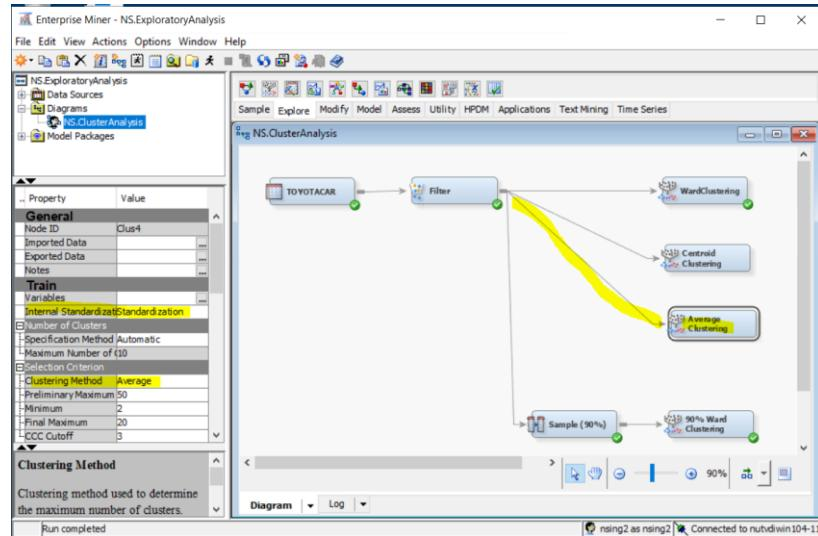
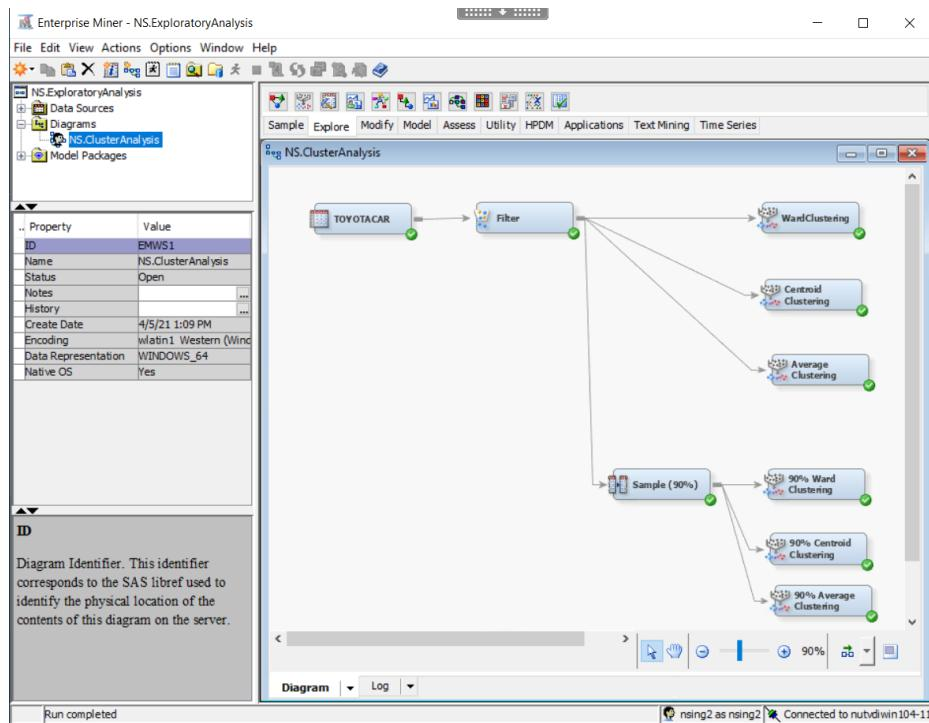

Figure 19
Figure 20
53. Right click on *Centroid Clustering* node (Figure 19) and click on Copy. Now right click anywhere on the diagram and click paste. Rename the pasted node as *90% Centroid Clustering*. In the properties window of *90% Centroid Clustering* node ensure *Clustering Method* property is set to *Centroid*. Move it under *90% Ward Clustering* node and connect it to *Sample (90%)* node (Figure 20).
54. Right click on *Average Clustering* node (Figure 19) and click on Copy. Now right click anywhere on the diagram and click paste. Rename the pasted node as *90% Average Clustering*. In the properties window of *90% Average Clustering* node ensure *Clustering Method* property is set to *Average*. Move it under *90% Centroid Clustering* and connect it to *Sample (90%)* node (Figure 20).
55. Right click on *Centroid Clustering* node and click on *Run* to execute it (Figure 20).
56. Right click on *Average Clustering* node and click on *Run* to execute it (Figure 20).
57. Right click on *90% Centroid Clustering* node and click on *Run* to execute it (Figure 20).
58. Right click on *90% Average Clustering* node and click on *Run* to execute it (Figure 20).